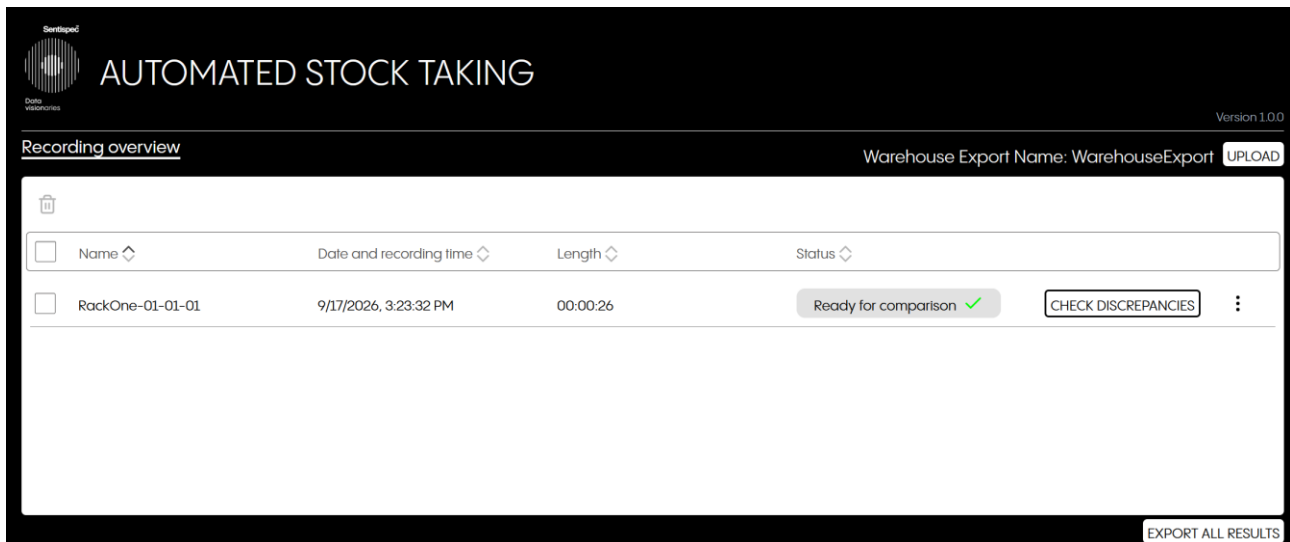

FIGURE 2-20 - SENTISPEC AUTOMATED STOCK TAKING ADMIN UI
2. Videos will automatically process once the preprocessing stage has been completed. Progress can be seen in the Admin UI, which was provided during deployment. (Figure 2-20 - Sentispec Automated Stock Taking Admin UI)